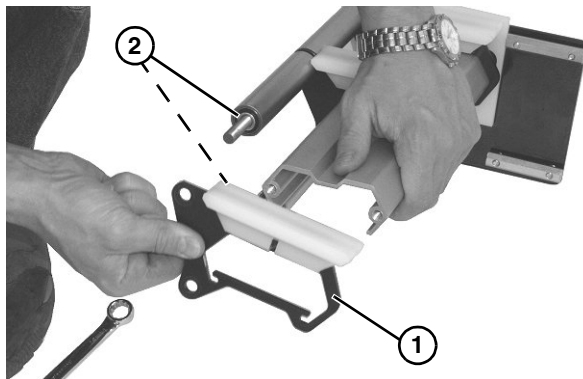

Figure 50
- Slide the support plate (**Figure 50, item 1**) off of both axle shafts.
- Remove washer (**Figure 50, item 2**) off of lower and upper axle shafts.